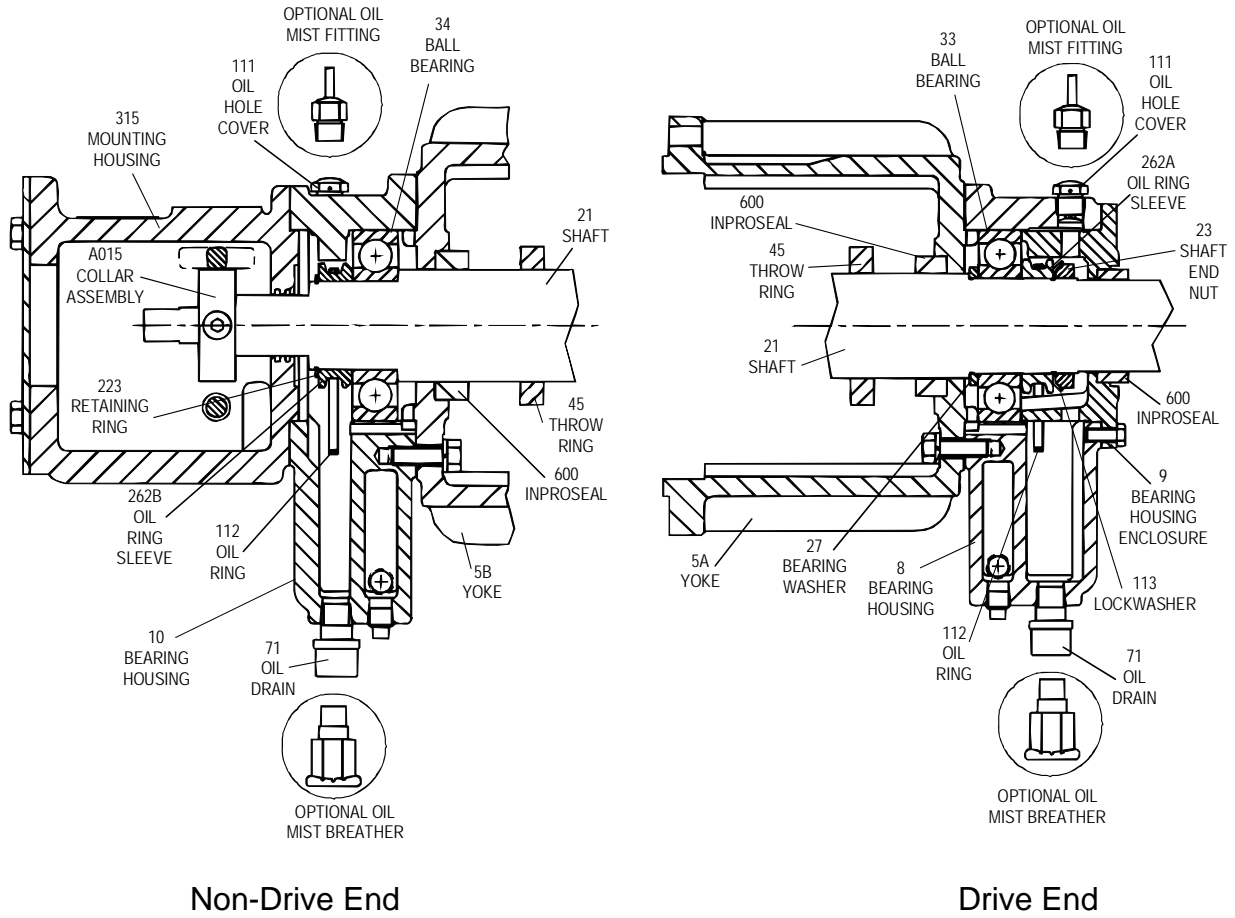

Figure L-6 RLA Bearing Housings Cross Section Optional Inproseal Design 16L-23L
- k. Install the bearing housing and bolt it in place. Slide the oil ring sleeve/oil ring combination over the shaft, properly oriented as shown in Figure L-6, with the flat side against the bearing, and reinstall the retaining ring.